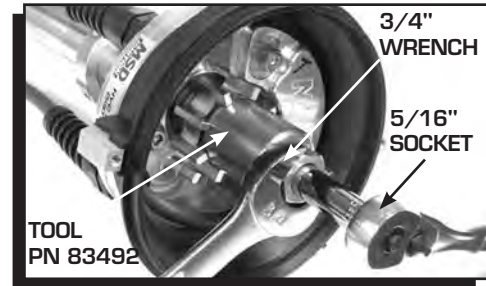

Figure 6 Removing the Reluctor.
2. Remove the reluctor. Use the installation/removal tool PN 83492 to prevent the shaft from turning (Figure 6). Remove the reluctor attaching bolt using a 5/16", 12pt deepwell socket.
15. Install reluctor using special tool PN 83492. Apply moly lube to the nut and torque to 10 lb-ft. (Figure 6).